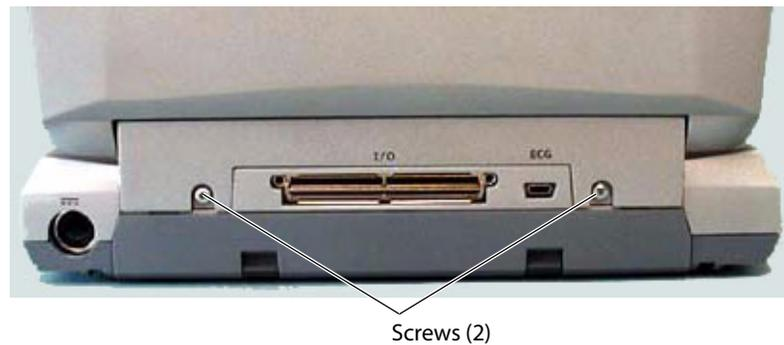

Figure 7.1 System Rear
- 2 Remove the two screws from the back of the system per Figure 7.1.
- 1 Remove the two screws from the rear of the system per Figure 7.1.